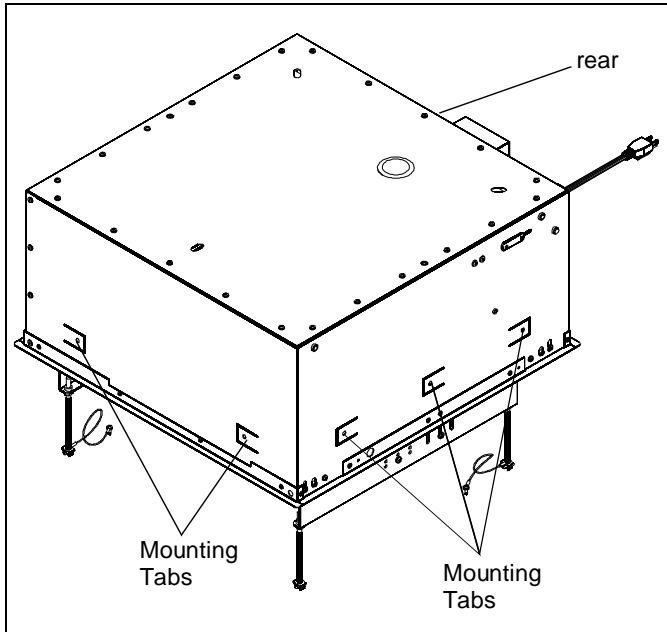

Figure 9
1. Use 1/4" x 1-1/2" (minimum) Grade 2 lag screws (not provided) to secure SL151 to the joists or wood framework, using the mounting tabs located on the sides of the SL151 housing. (See Figure 9).